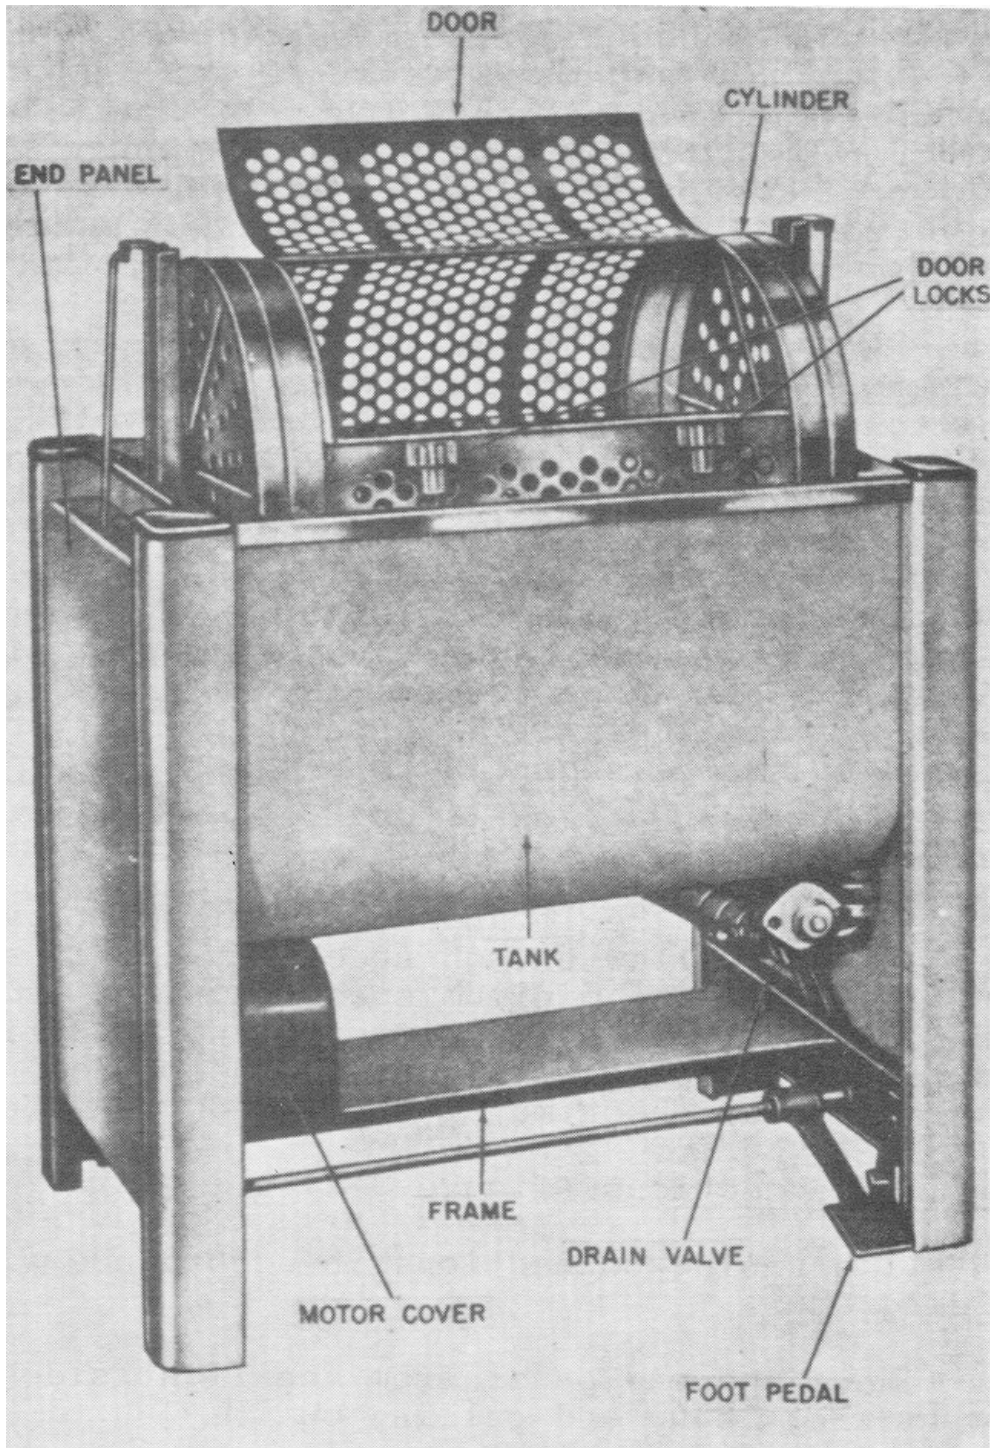

FIGURE 3-1. Washer EK-1, in position for receiving prints.
c. Store the feed shelf (figure 3-1) in a separate location from the print processor.
a. General. Washer EK-1 is designed to wash photographic prints for the purpose of removing the fixing solution. A constant flow of water, aided by a rotating cylinder (figure 3-1), circulates the prints to provide constant agitation. The machine is equipped with manually regulated inlet and outlet valves to adjust the rate of water flow and displacement.
3-2 Component Parts of Washer EK-1 (figure 3-1)
a. Washer frame (figure 3-1). The frame, together with the four legs which are bolted to it, provides support for the motor, transmission, cylinder lift units, cylinder, and tank.
b. Cylinder (figure 3-1). The cylinder is a perforated stainless steel drum which holds the prints during washing. It has a hinged door with door locks for convenient loading and unloading. An index pin, located on each lift channel, holds the cylinder in position when it is raised and the door turned upward. Attached to each end of the cylinder is a stub shaft that rests in the rubber bearing of the lift channel to
c. Tank (figure 3-1). The tank is supported by the four legs to which the frame is bolted. It has a water inlet and overflow outlet on the right side. The drain valve is bolted to the bottom under the drain outlet. The inlet pipe assembly, cylinder rollers, and roller shaft are located on the inside of the tank. The outside surface is painted for ease of maintenance.
e. Motor (figure 3-1). The motor is a 1/20-hp (horsepower) splitphase type which operates on 115-volt, 60-cycle ac (alternating current). A 6-foot power cord with a two-prong plug is provided for electrical connection.
f. Cylinder lift (figure 3-1). The cylinder lift consists of the foot pedal, pedal shaft, two lift rods, and two lift levers. The foot pedal and lift levers are fastened to the pedal shaft which rotates in the frame. The lift rods are fastened to the lift levers and the lift channels which ride in the guide channels in the tank.
a. Foot pedal. The foot pedal (figure 3-1) is used to raise and lower the cylinder in the tank. To raise the cylinder, push down on the foot pedal far enough to allow the pedal lock to hold the pedal down. To lower the cylinder, push down on the foot pedal to release the pedal lock and allow the pedal to raise slowly.
c. Door lock. The two door locks (figure 3-1) on the cylinder slide over the end of the hinged door. Simply push the door locks up or down to lock or unlock the door.
(4) Raise the cylinder by stepping on the foot pedal (figure 3-1). Engage the pedal lock to hold the foot pedal down.
(5) Rotate the cylinder by hand until the door is on top and the index pin on each lift channel engages the cylinder to hold it in place.
(6) Release the door locks and open the door.
(7) Place the prints in the cylinder, one by one, so that they do not stick together.
(8) Close and lock the door.
(9) To lower the cylinder in the tank, step on the foot pedal to release the pedal lock, and allow the pedal to rise slowly.
(10) Turn on the power switch to start the motor.